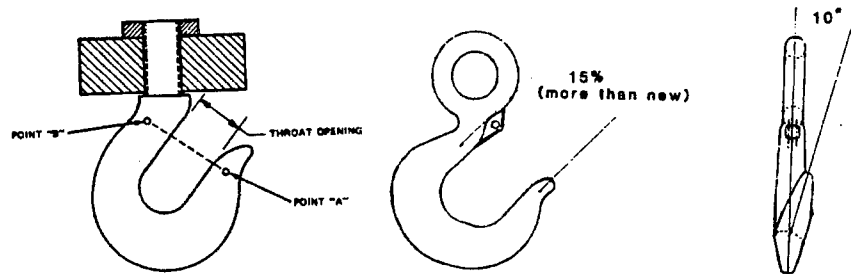

Fig. 2-21 Hook problems
2. Tolerance. Hooks which have bent 10 degrees from the plane of the unbent hooks shall be discarded (See **Figure 2-21**).
3. Measurement. Hooks shall be measured for throat opening before installation. A throat dimension base measurement shall be established by installing two punch points minimum (one below the eye, the other on the hook point) and measuring the distance between them. Crane and boom power weight handling system hooks shall have the throat dimension retained in the hull history record file for the life of the hook. All other weight handling hook throat dimensions shall be retained in the auxiliary weight handling log book. If at any semi-annual inspection the throat dimension has increased by 15 percent of the original measurement the hook shall be discarded (See **Figure 2-21**). To ensure that discarded hooks are not used any further, they should be cut or disfigured before discarding.